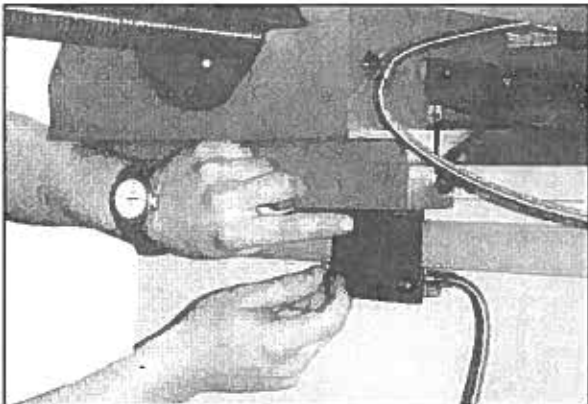

Figure 20. Mounting the provided bracket.
3. After the scale is aligned to the axis, drill and tap the saddle to suit the provided bracket and mount the bracket as shown in **Figure 20**. Ensure the reader head is sitting correctly so when it is attached it will be square and parallel to the scale.